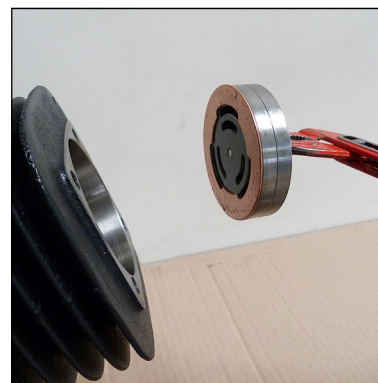

Fig. 3 - Place new inlet and outlet valve straightly into cylinder
- Place the new inlet and outlet valve straightly into the cylinder (Fig. 3).